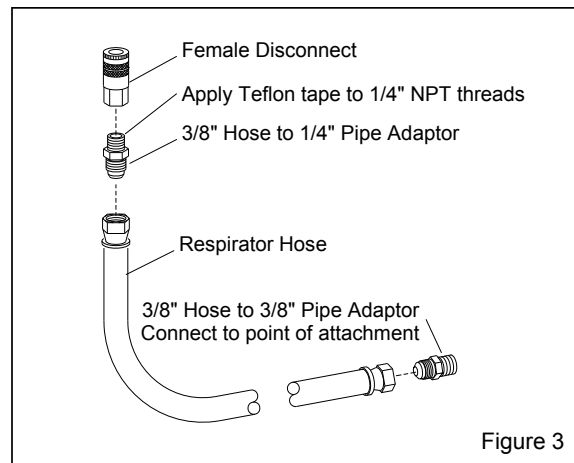

Figure 3
**3.4.2** Apply Teflon tape to the 1/4" NPT threads on the 3/8" hose to 1/4" pipe adaptor as shown in Figure 3, and connect it wrench-tight to the female disconnect.